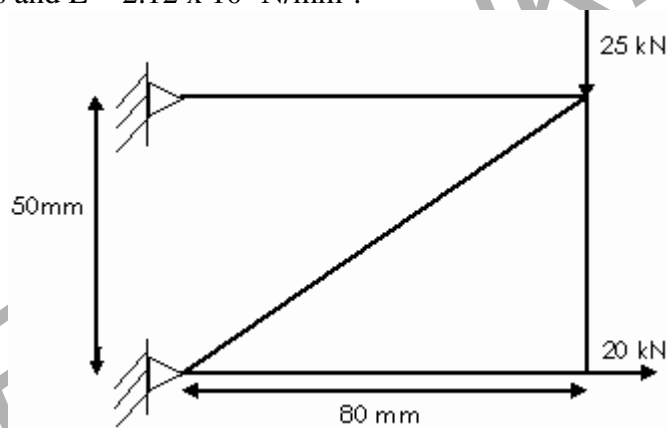

Figure: 1
- Consider the plane truss system shown in Figure 1. Determine the element stiffness matrix for each element and assemble the global stiffness matrix for the entire truss. Area = 500 mm² for all elements and $E = 2.12 \times 10^5 \text{ N/mm}^2$. [16]